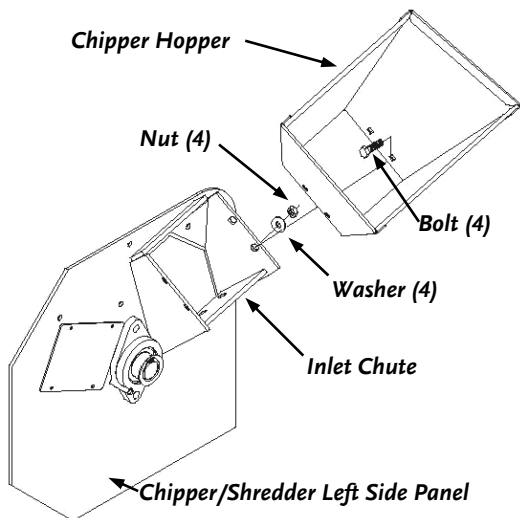

Figure 4
**NOTE:** Be sure to insert the Bolts from the inside of the Chipper Hopper so that the threads are sticking out (**Figure 4**) and the heads are flush against the Hopper. Install the Bolts, Washers and Nuts one at a time.
2. Install a Flat Washer, then a Lock Nut on each Bolt. Initially install the Bolts and Nuts finger tight and then tighten the Nuts one turn using two 1/2" Sockets or Wrenches (**Figure 4**). Check to see that the Hopper is centered on the Inlet Chute and then tighten the Nuts securely.